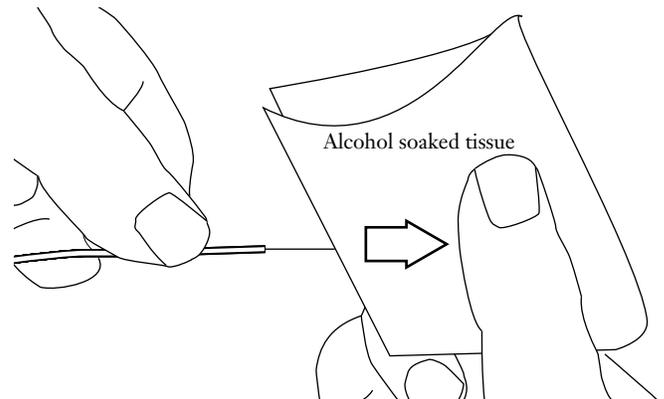

Figure 9
4.10 Using a lint-free tissue soaked with alcohol, clean the stripped fiber (Figure 9). Avoid handling the cleaned area of fiber.